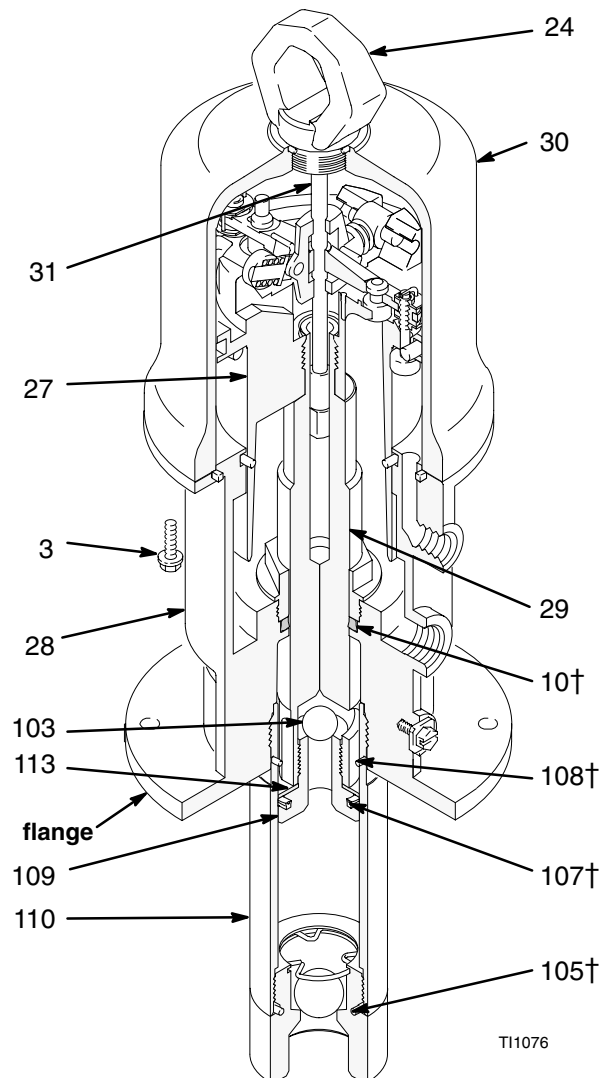

Fig. 3
3. Disconnect the hoses, remove the pump from its mounting, and clamp the air motor base (28) in a vise horizontally by closing the vice jaws on the flange.
4. Use a strap wrench on the displacement pump cylinder (110) to screw it out of the air motor base (28). See Fig. 3.
5. Remove the piston/valve seat (109) from the rod (29) with wrenches or with the vice and a wrench.
6. Remove the piston ball (103), u-cup packing (107†), and piston washer (113).
7. Remove the air motor base from the vice, and place the piston rod (29) flats in the vice with the air motor up.
8. Loosen the lift ring (24). Pull up the lift ring, grip the trip rod (31) with the padded pliers, and screw the lift ring off of the rod.
12. Grease and reinstall the u-cup seal (10†), thread the throat bearing (36) into the air motor base (28), and torque the throat bearing to 30 to 40 ft-lb (41 to 54 N.m) using a 2-in. socket.
13. Slide the piston rod (29) down through the packing, and lower the piston assembly (27) into the air motor base (28).
14. Carefully lower the cylinder (30) straight down onto the piston assembly (27). Tighten the eight screws (3) holding the cylinder to the base (28).
15. Grip the trip rod (31) with padded pliers, screw the lift ring (24) onto the trip rod, push the lift ring down, and screw it into the top of the cylinder.
16. Install the u-cup packing (107†) with the lips up, and place the piston washer (113) on the piston/valve seat (109). Make sure the lips of the u-cup packing face up. See Fig. 3.
17. Place the piston ball (103) in the piston rod (29).
18. Clean the threads of the piston/valve seat, Apply Loctite® to the threads, (109), and thread the assembly from Step 16 onto the piston rod (29).
19. Clamp the flats of the piston/valve seat (109) in a vice, and torque the piston rod (29) to the piston valve seat to 40 to 60 ft-lb (54 to 81 N.m).
20. Clamp the air motor base (28) in a vise horizontally by closing the vice jaws on the flange
21. Use a strap wrench to screw the displacement pump cylinder (110) to the air motor base (28), and torque to 95 to 105 ft-lb (129 to 142 N.m).